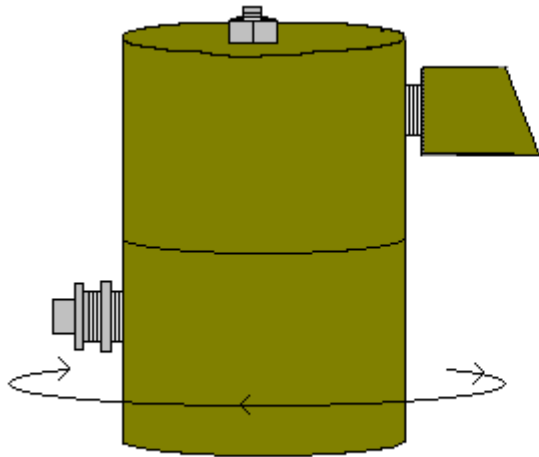
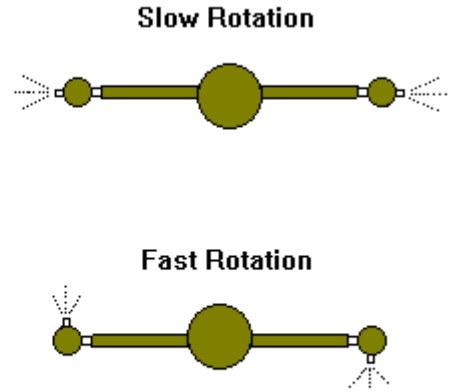

FIGURE 2
FIGURE 3
STEP 4) The next step is to set the rotation speed by adjusting the spray buckets. This is best achieved by connecting water to the Washer and testing your adjustments before installing on the guide rail. By loosening the bolt which passes through each bucket, the nozzle housing can rotate through 360 degrees (see Figure 2). The nozzles need to be pointing in opposite directions to cause the spray arms to rotate. Speed of rotation is affected by the angle at which the nozzles are set (Figure 3). Best results are obtained with slow rotation, but care must be taken to allow for drops in water pressure at times of peak water usage in the locality. A temporary drop in water pressure can cause the Washer to stop.